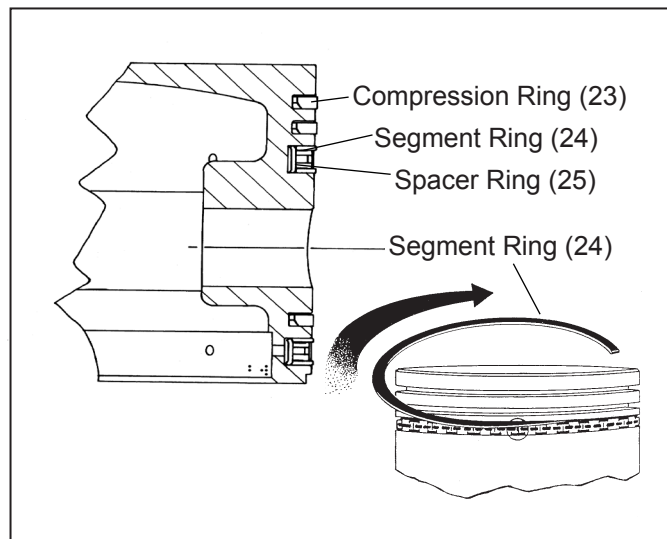

Figure 17 – Piston & Rings
1. Install the spacer and segment rings as follows. Place the spacer ring (25) in the piston groove, the ends of the spacer must butt and not overlap. Install the top segment (24) by inserting one end above the spacer in the ring groove, 120° from the spacer ends and wind the segment into position. Install the bottom segment in the same manner beneath the spacer making sure the gap is staggered 120° from both the top ring segment and the spacer end gaps. Before using, be sure both painted ends of the spacer are visible and butted.
2. Install the compression rings (23) in the proper grooves with the “pip” mark toward the top of the piston. (See *Figure 17*).
Check the ring side clearance of each ring in the piston ring groove. (See *Figure 17*). If the side clearance is too large, the piston ring groove is worn beyond specifications and the piston must be replaced.